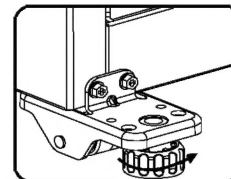

Fig. 1
Step 4: Rotate the two front levellers, provided below your refrigerator, clockwise to raise the front and anticlockwise to lower it (refer fig. 1). The front should be slightly above the rear - so that the door shuts gently when left open.